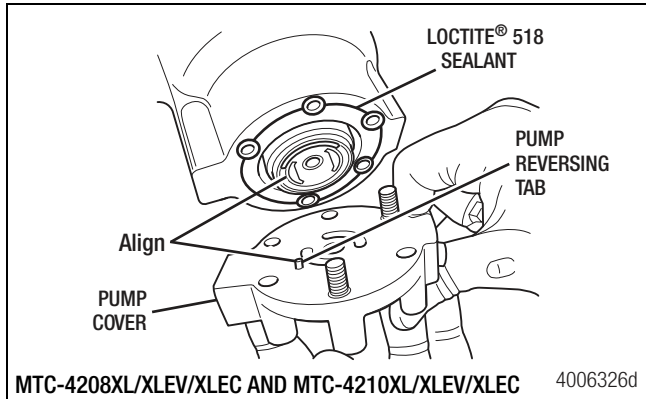

Figure 7.45
8. Apply a very light bead of Loctite® 518 sealant onto the pump housing. NEVER allow the sealant to enter the pump cavity. Damage to the pump can result. Figure 7.45.
10. Align the reversing tab (roll pin) on the pump cover with the corresponding recess on the pump. The pump cover must be at this orientation to prevent damage to components. Figure 7.45.